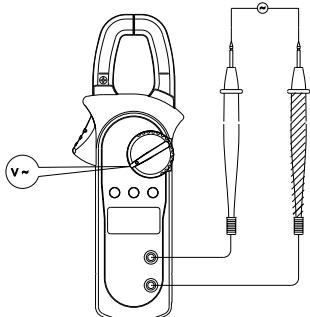

Figure 4
2. AC voltage measurement (V~) (shown in Figure 4)